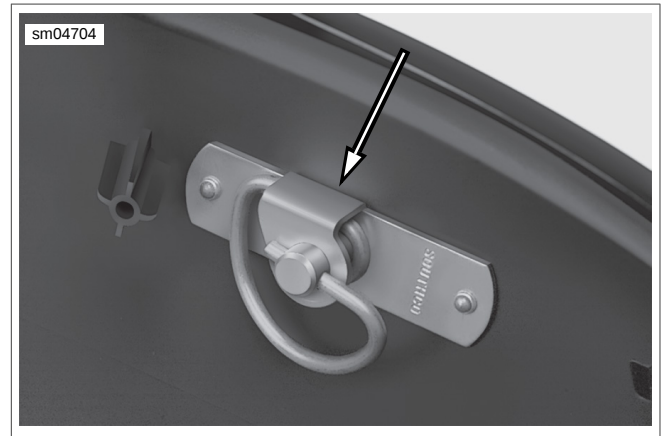

Figure 2-14. Spring Latch
3. Drill out two rivets using a 13/64 inch drill bit. Remove spring latch. See Figure 2-14.
1. Hold spring latch at bottom of saddlebag lid with the flat side facing opposite the hinges. See Figure 2-14.